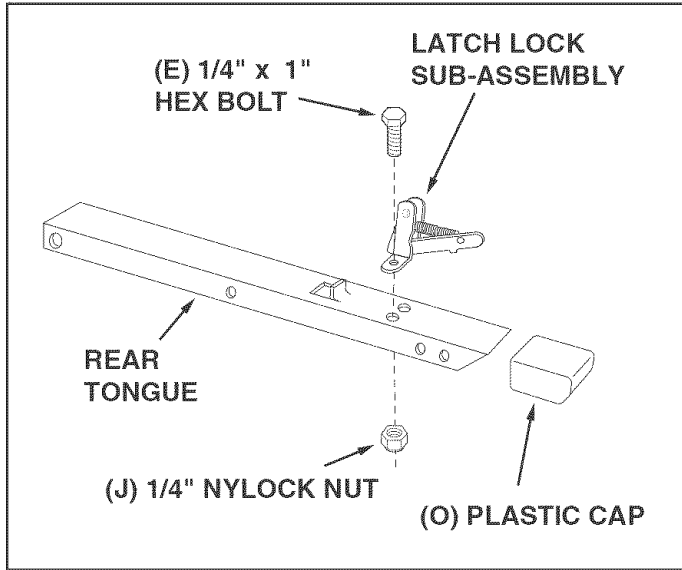

FIGURE 2
STEP 2: (SEE FIGURE 2)
- Assemble the latch lock subassembly to the rear tongue using two 1/4" x 1" hex bolts (E) and 1/4" nylock nuts (J). **Tighten.**
- Assemble the plastic cap (O) to the front end of the rear tongue.